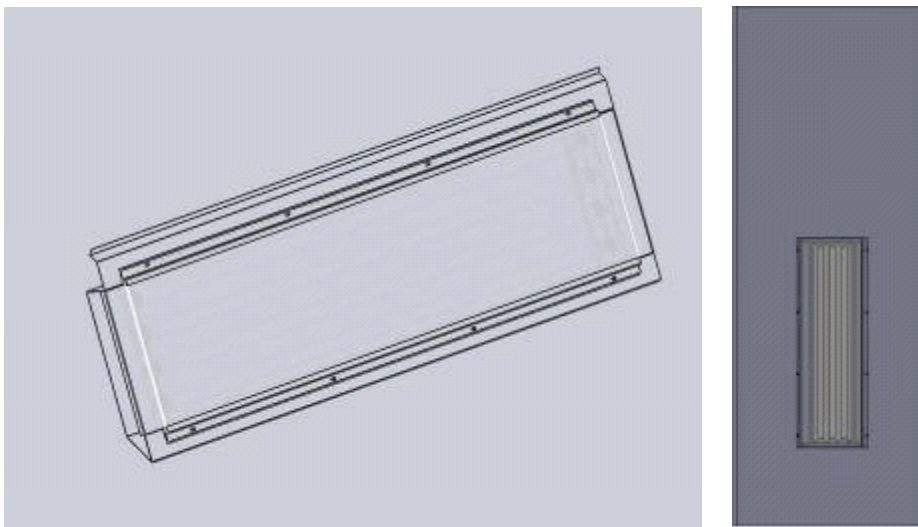

Fig. 2.4
- The internal illumination is warranted by the overhead lights (shown in Fig.2.4) inserted into the top of the side panels, positioned at an angle of 45° to warranty a sufficient and uniform illumination.